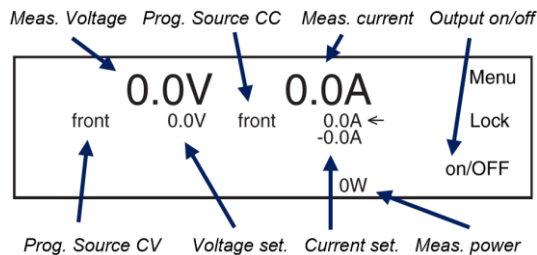

Figure 8.1: The first line in the display shows the actual output value for voltage and current
- The first line in the front display indicates the measured values for the DC output voltage and current. See Figure 8.1.
- Under the values for the actual output voltage and current, the display always shows the settings for the CV-control and for the CC-control. See Figure 8.1.